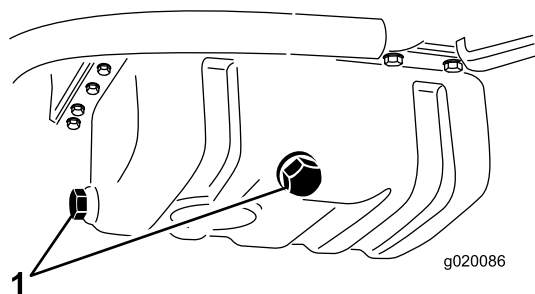

Figure 55
2. Remove either drain plug (Figure 55) and let the oil flow into a drain pan. When the oil stops flowing, install the drain plug.